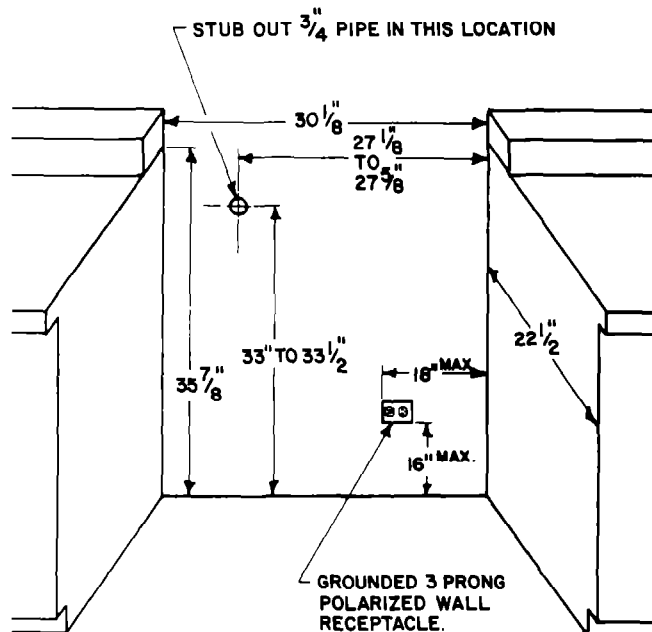

FIGURE 2
4. Refer to Figure 2 for the size of the cabinet opening needed and the location of the gas and electrical supply.